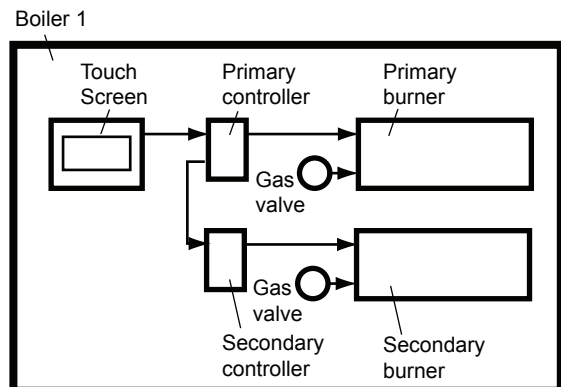

Figure 1. Control Arrangement in a Single-Boiler Installation
- Each boiler has two controllers (internal electronic burner controllers) and two burners, as shown in Figure 1.